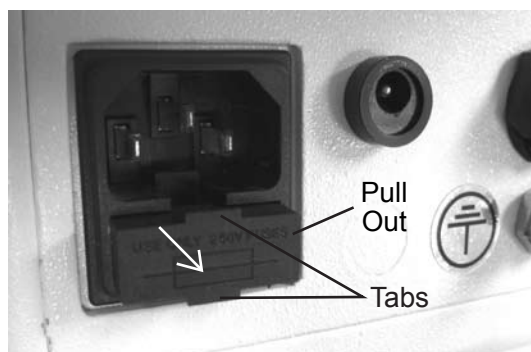

Figure MM-5 Pull Out
2. Press down on the top tab in the middle of the Power Input Module to release the Fuse Holder, and gently pull out the Fuse Holder by gripping the two small tabs. Refer to Figures MM-5 and MM-6.